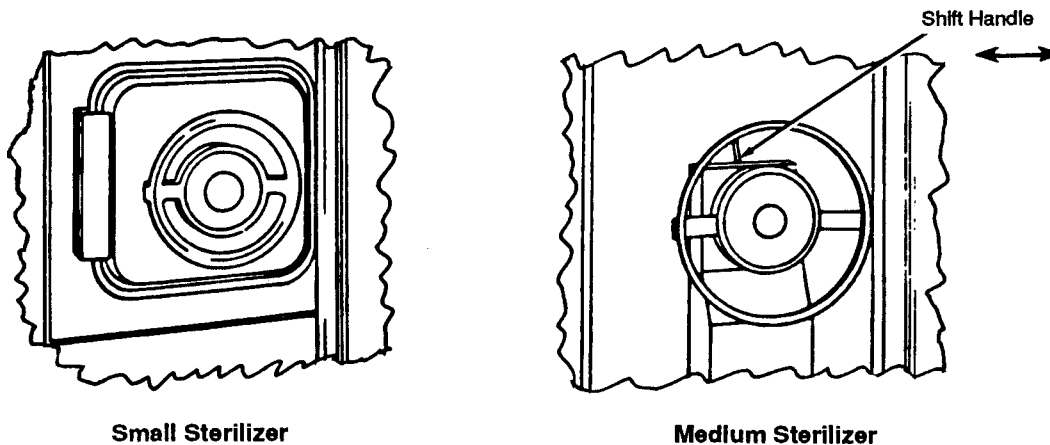

Figure 2-3. Door Handwheel
2.5 Manual Door Operation (See Figure 2-3)
2.6 Power Door Operation (See Figure 2-3)